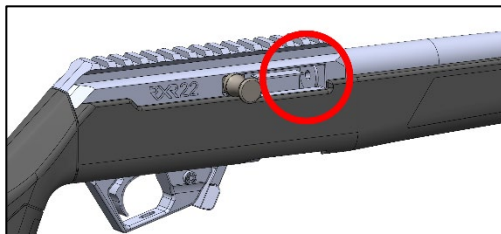

Figure 11
- Examine the chamber to ensure that no ammunition is present. Verify both visually and physically that the chamber is clear of ammunition and that the magazine is not latched into the magwell – Figure 11.